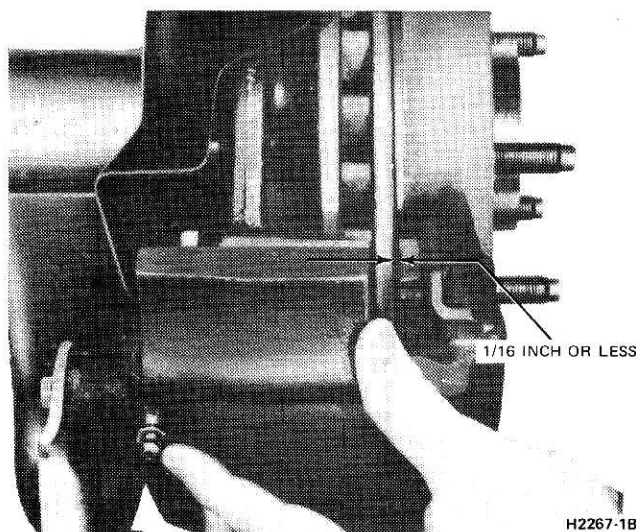

FIG. 17 Checking Lining Clearance
8. Pull the caliper outboard until the inner shoe and lining is firmly seated against the rotor. Measure the clearance between the outer lining and rotor. The clearance must be 1/16 inch or less (Fig. 17). If it is greater, remove the caliper and readjust the piston outward to narrow the gap. Follow the procedure given in Step 2 and rotate the shaft **counterclockwise** (1/4 turn of the piston moves it approximately 1/16 inch). **CAUTION: A clearance greater than 1/16 inch may allow the adjuster to be pulled out of the piston when the service brake is applied.** This will cause the parking brake mechanism to fail to adjust. It is then necessary to replace the piston/adjuster assembly following the procedures detailed in the Overhaul section.